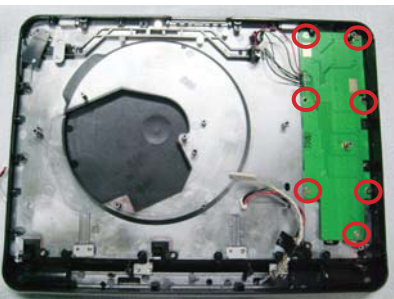

Fig.11
11. Remove screws to remove function board as Fig.11.